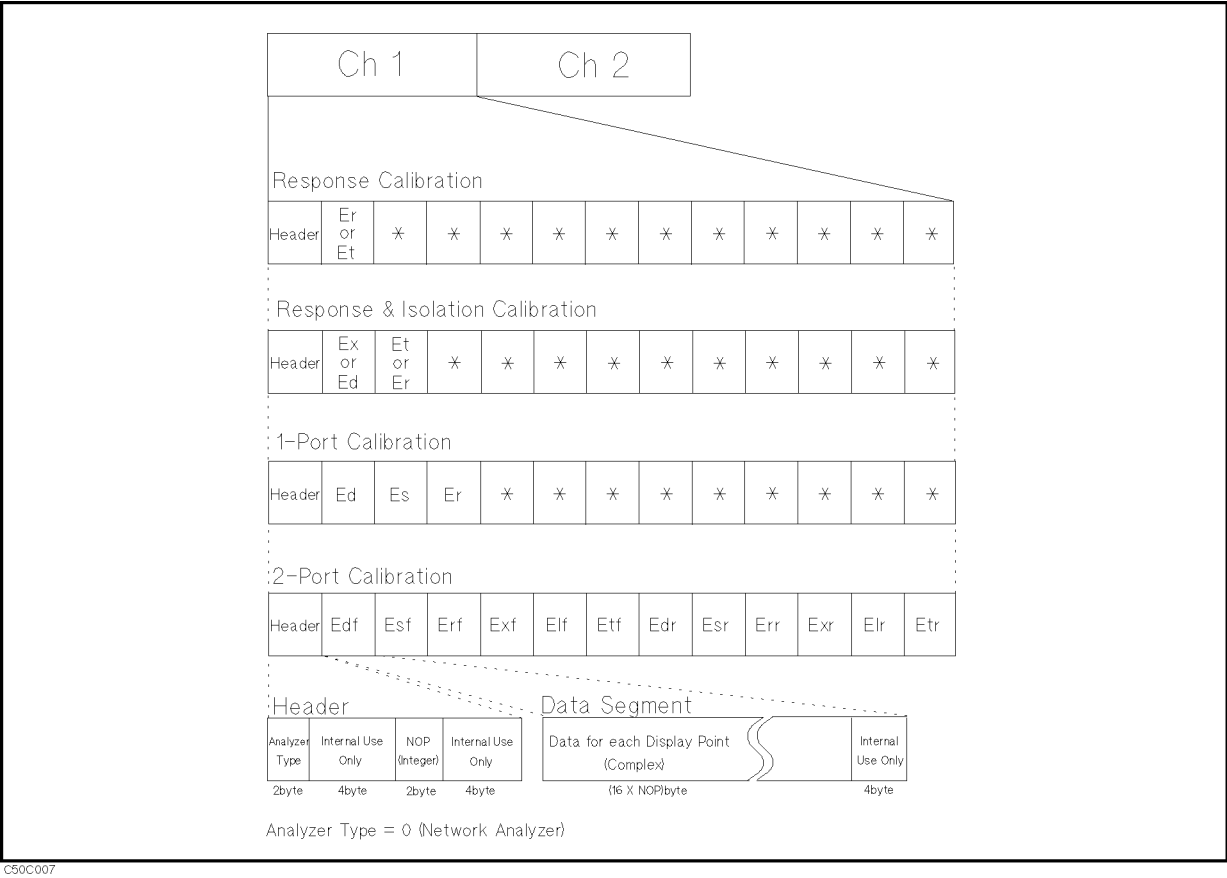

Figure A-44. CAL Data Group Structure for the Network Analyzer
- **CAL** of the network analyzer consists of 12 data segments by a channel as shown in Figure A-44. The first half of the segments are for channel 1 and the second half of the segments are for channel 2. The contents of each segment depend on the type of calibration performed. CAL data is available for only the network analyzer.